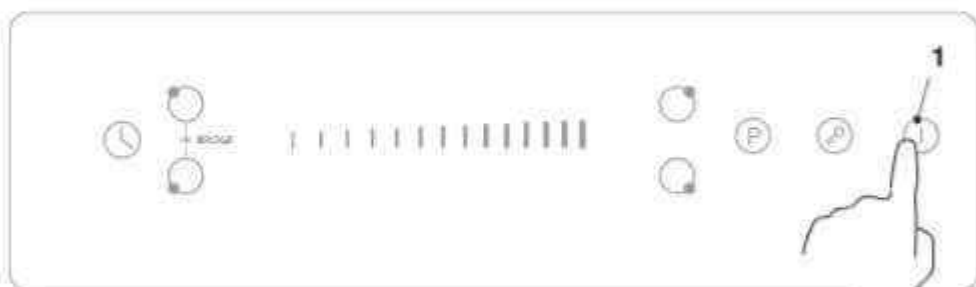

Fig. 4.35
The total power of the induction hob with ECO function can be limited to 2.8/3.5/6.0/7.2 kW with proper power supply (see "ECO function setting table" after Fig. 4.35).
- 4 - Press the hotplate button (5) in question, the number shown on the display indicates that the total power will be reset to the respective ECO power settings (e.g., the front left area button is associated with the number on the display "28," which corresponds to 2.8kW; see also the "ECO function setting table" after Fig. 4.35).